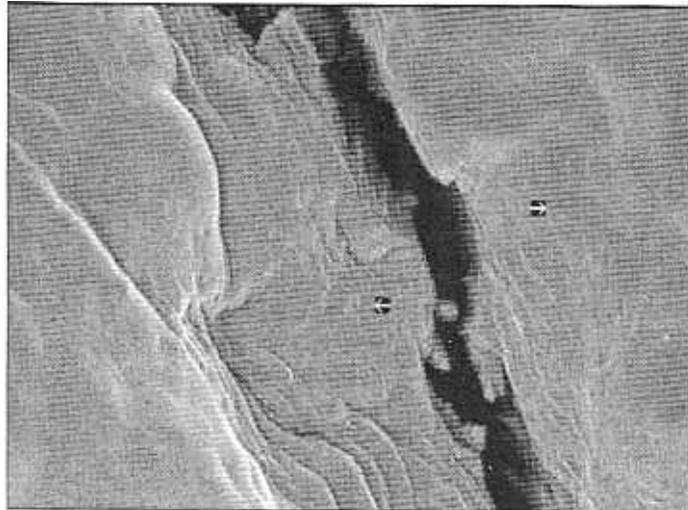

Figure 3.4 Loss of Contrast Due to Charging
- Loss of image contrast (see Figure 3.4)